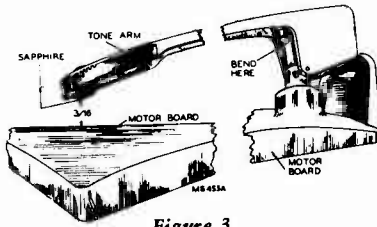

Figure 3
3. Bend portion of the tone arm bracket so that the sapphire is  $3/16$  inches above the flat surface of the motorboard. (Figure 3.)